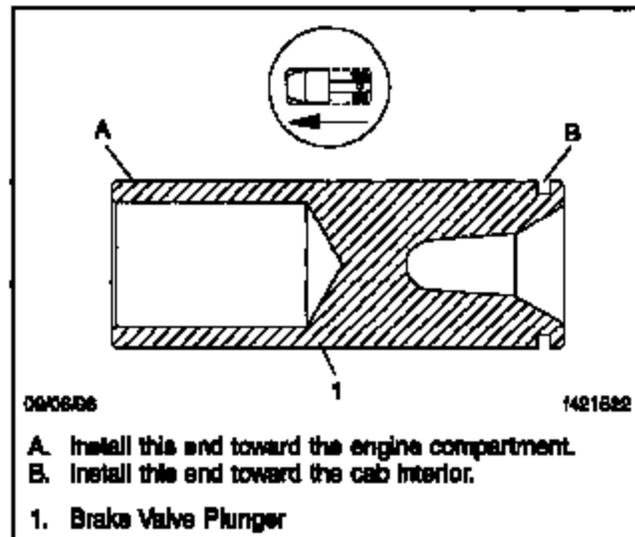

Fig. 7, Brake Valve Plunger Installation
7. Install the plunger in the foot valve adaptor with the groove in the plunger toward the inside of the cab. See Fig. 7.